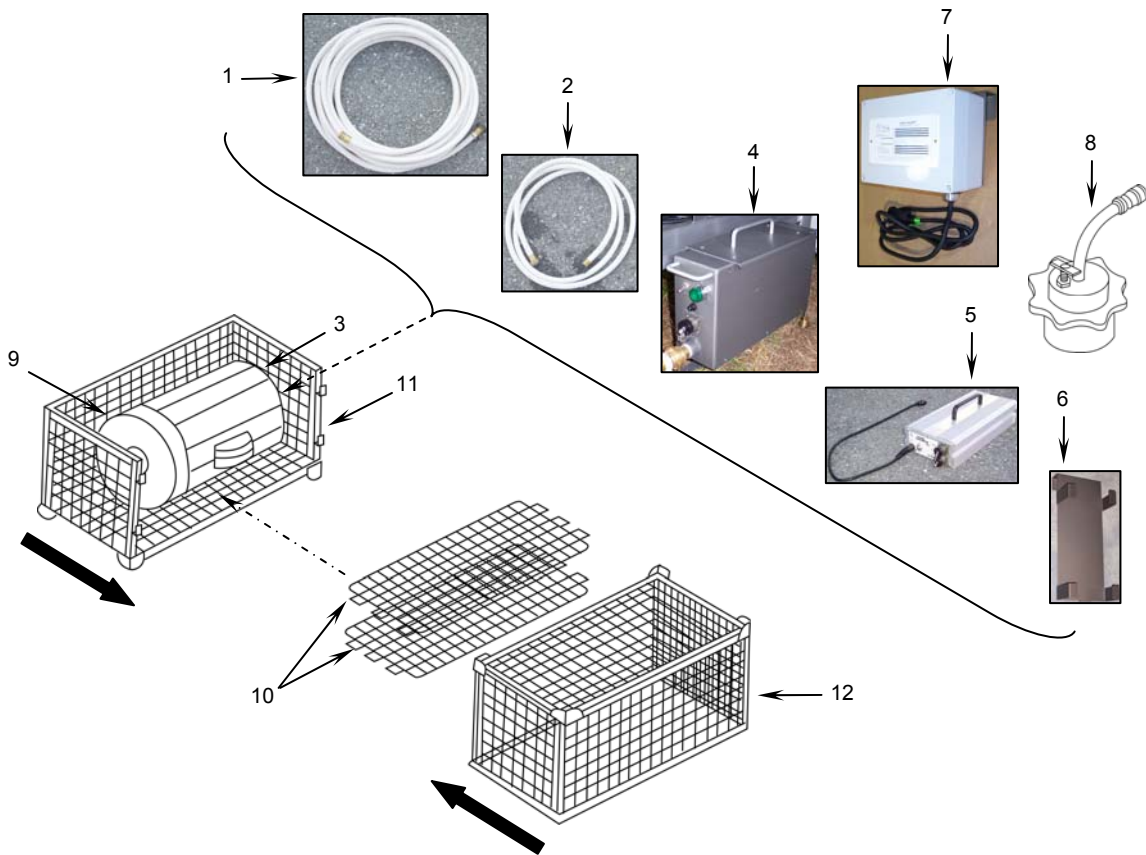

Figure 46. Packing Second Storage Rack Assembly.
- a. Pack the 50-ft water supply hose (**Figure 46, Item 1**) and the 15-ft sink fill hose (**Figure 46, Item 2**) into the second waste receptacle (**Figure 46, Item 3**).
- b. Wrap the sink fill pump assembly (**Figure 46, Item 4**) in barrier material and pack into the second waste receptacle.
- c. Place the power converter (**Figure 46, Item 5**) in its hanging bracket (**Figure 46, Item 6**). Wrap in barrier material and place into the second waste receptacle).
- d. Wrap the CO monitor (**Figure 46, Item 7**) in barrier material and pack into the second waste receptacle.
- e. Place the fuel can adapter (**Figure 46, Item 8**) in the fuel can adapter bag and place in the waste receptacle.
- f. Place the lid (**Figure 46, Item 9**) on the waste receptacle and seal with duct tape.
- g. Place two shelves (**Figure 46, Item 10**) into the bottom of an empty storage rack assembly (**Figure 46, Item 11**).
- h. Place the packed waste receptacle (**Figure 46, Item 3**) into the storage rack assembly (**Figure 46, Item 11**).
- i. Use two-person lift (one person on each end), carefully turn an empty storage rack (**Figure 46, Item 12**) upside down and position it so that its empty side faces the empty side of the just-packed storage rack.